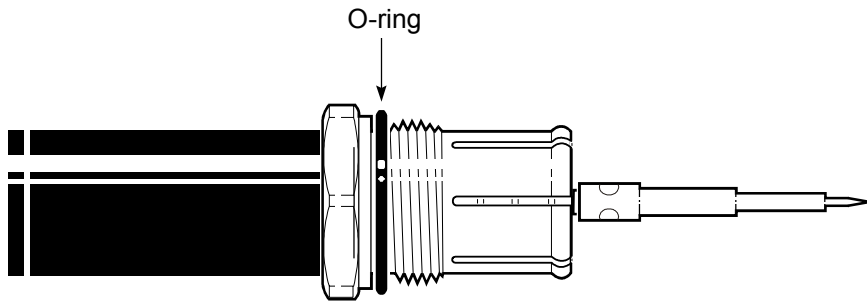

Figure 67 – Adding the large O-ring
12. Add the large O-ring to the clamping nut, as shown in *Figure 67*.